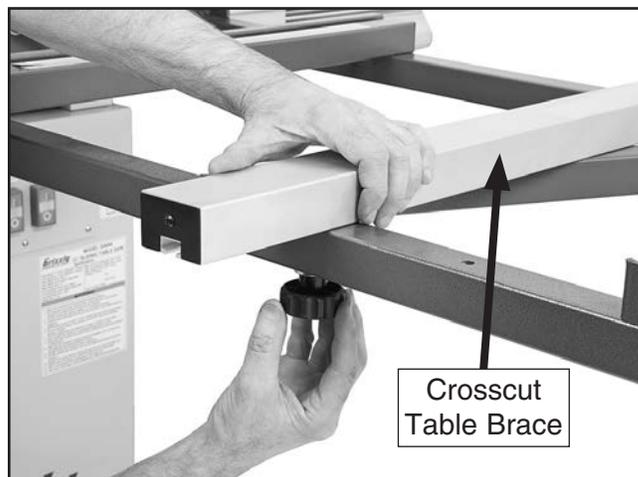

Figure 45. Installing the crosscut table brace.
51. Slide (2) M8-1.25 T-nuts into the crosscut table brace, align the T-nuts with the holes in the crosscut table, then secure the brace with (2) M8-1.25 x 50 knobs and 8mm fender washers, as shown in **Figure 45**.